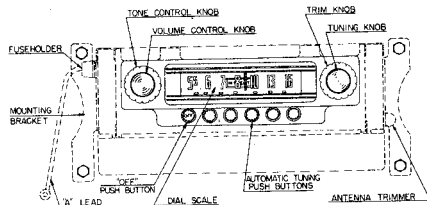

Fig. 2. Front Panel View
The radio is connected to the accessory terminal of the ignition switch, therefore, it is necessary to turn the ignition key to the left, if the engine is not running, before turning the radio on. Press any one of the five automatic push buttons. (Fig. 2.) Allow approximately 20 seconds for the receiver to reach operating temperature.
To turn the receiver off, press the "Off" push button (Fig. 2.)
To operate the manual tuning control simply turn the tuning knob. (Fig. 2.) When tuning in a station, be sure to tune to the exact frequency for the best tone quality.
Turn the volume control knob for the desired volume. (Fig. 2.)
There are five automatic tuning push buttons located to the right of the "Off" push button. (Fig. 2.)
2. Tune in the station desired for number 1 position by turning the tuning knob. (Fig. 2.) Be sure to tune to the exact frequency to insure the best tone.
3. Loosen the number one push button, located nearest the "OFF" push button (Fig. 2) by turning it counterclockwise with your fingers not more than two turns. If the push button is completely unscrewed, the plunger assembly, inside the receiver, may fall apart. Then it will be necessary to remove the radio from the car, open the case, and reassemble the plunger.